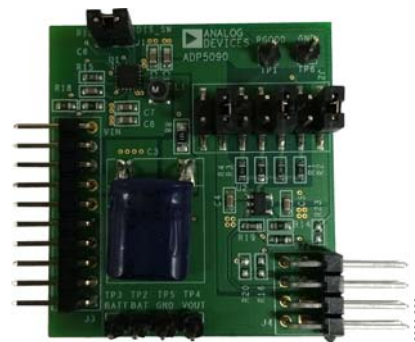

Figure 3. Jumper Setup
2. Connect the J2_1 and J2_2, J2_9 and J2_10, and J2_11 and J2_12 jumper pairs together on the ADP5090-2-EVALZ board, as shown in Figure 3.
3. Place the system in a bright environment. Monitor the voltage on the supercapacitor using the TP3 (BATT) and TP5 (GND) test points (see Figure 3).